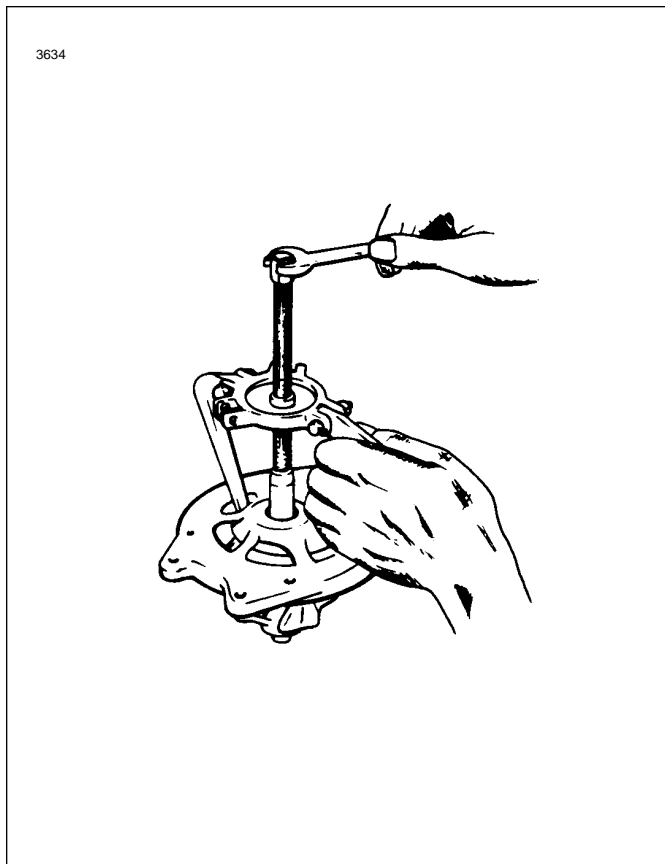

Figure 11-6 Removal of Drive End Head
e. To remove the slip ring end bearing and grease seal, it will be necessary to have a hook type or impact type bearing puller as shown in Figure 11-6. Do not remove the bearing unless replacement is necessary.